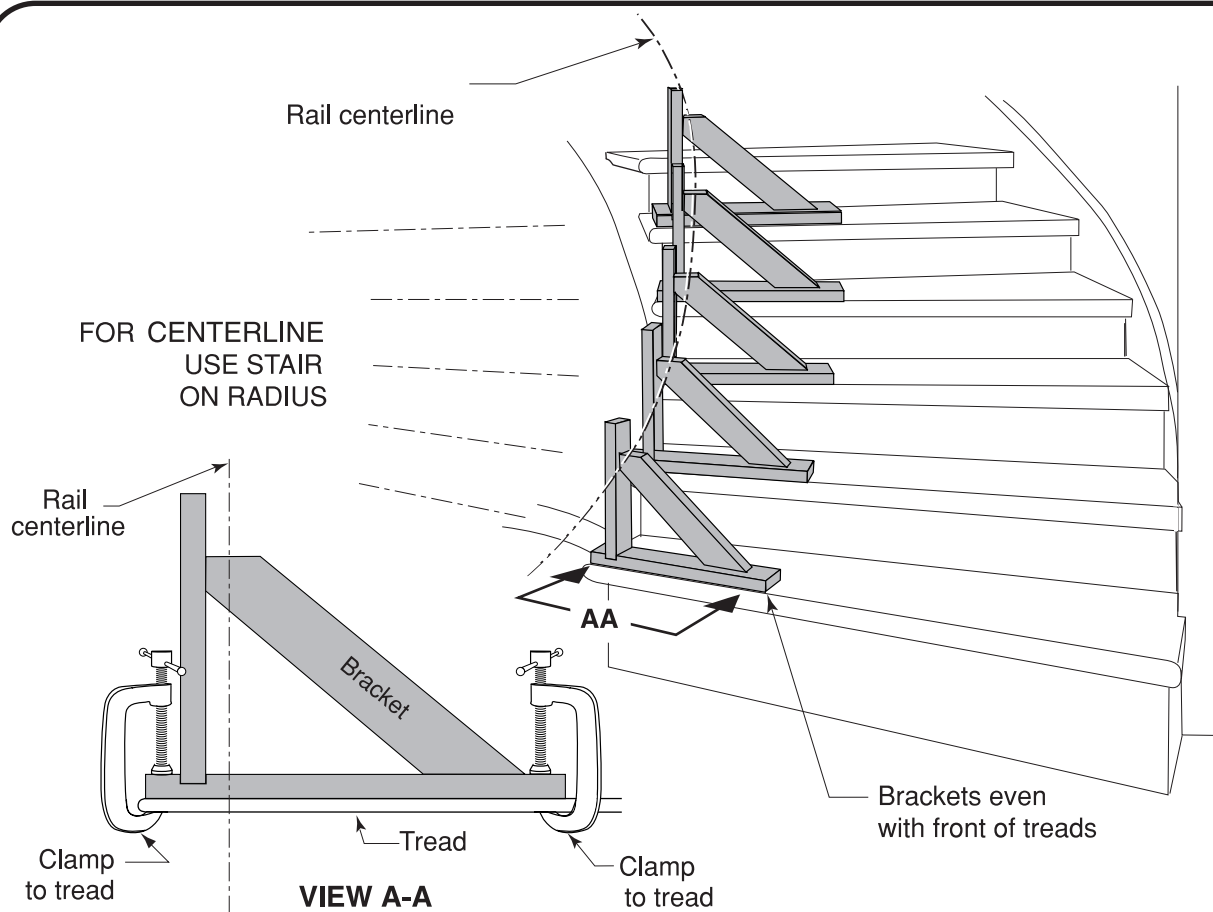

Fig 6-2 Aligning Bending Brackets to Rail Centerline
4. Align the bending brackets on the tread so that when the rail is bent, it lies directly over the rail centerline and that the bracket is even with the front of the tread. Please note Fig. 6-2 here.